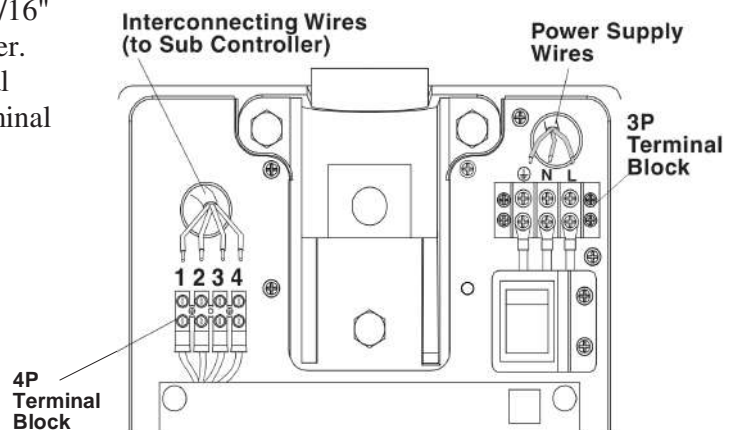

Fig. 3-7 Wires Connection in Main Controller
3. Cut the wires to workable length and strip 3/8" of insulation for power supply wires and 3/16" for interconnecting wires for Sub Controller. Connect power supply wires to **3P** terminal block and interconnecting wires to **4P** terminal block. (**Fig.3-7**)
4. Reattach the restriction plate. (**Fig.3-7**)